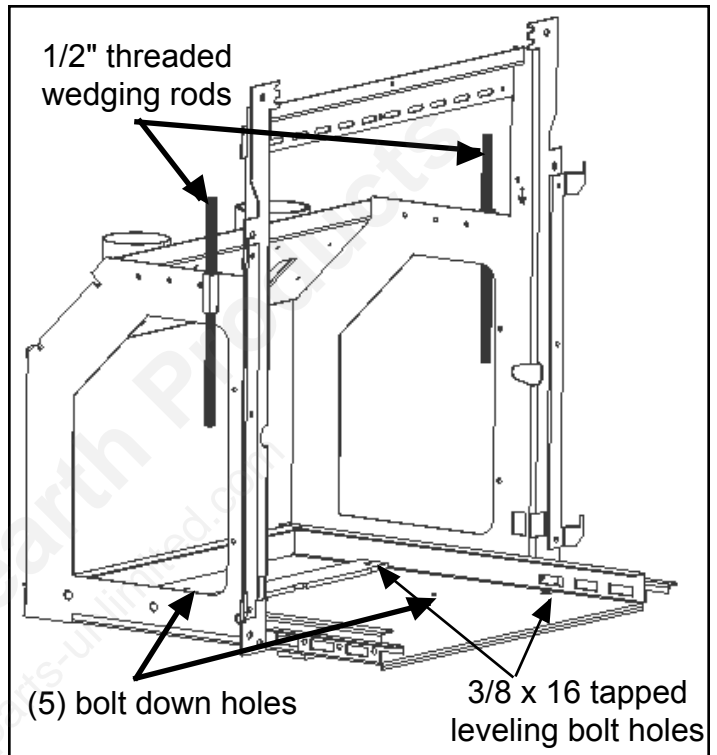

Fig. 26
- Wire-tie the sensor wire to the inside of the mounting frame up to the cord grounding location. Follow the power wiring to where you make the male/female terminal connection to the twisted blue wires. There are (2) crimp-on connectors in the hardware pack that must be installed on the internal ends of the room sensor wires.
8. Install the (4) 3/8-16 x 1" leveling bolts into the threaded holes in the bottom pan of the mounting shell. The front two leveling bolts may not be necessary, but the back two will need to be used to level the wing so that it is flush with the fireplace face. See Fig. 26.
11. Tighten the (2) 1/2" threaded rods up against the lintel of the fireplace opening. It is also recommended to use some form of anchoring screws through the bottom of the shell into the hearth. There are up to 5 holes provided. Note: It is a good idea to check the ash lip again. The frame may have shifted when the final anchoring was completed. See fig. 26.